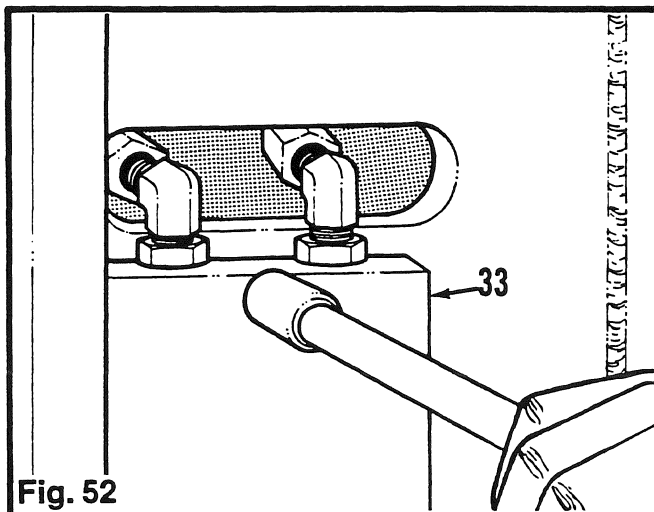

Fig. 52
3. Remove the two capscrews that fasten the cushion valve (33) to the frame. Remove the cushion valve (33). (Fig. 52)